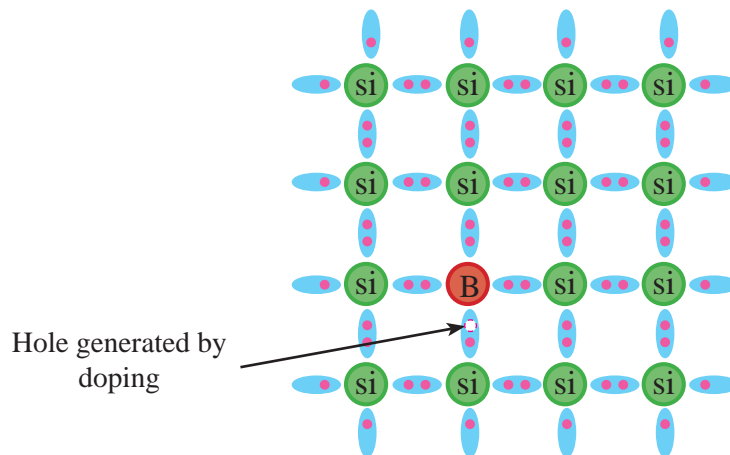

Figure 11.5 - A Si lattice doped by boron
If Si which is an intrinsic semiconductor is doped with an element in group III such as boron (B), the boron atom forms bonds with nearby silicon atoms. However, since there are only three electrons in the outermost shell of the boron atom, there is a deficiency of one electron in order to form four bonds. Figure 11.5 shows how the atoms and bonds are configured in this case.